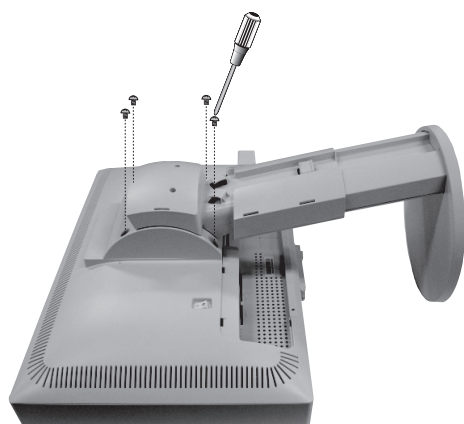

Figure M.3
3. Place monitor face down on a non-abrasive surface (**Figure M.3**).
4. Remove the 4 screws connecting the stand to the monitor (**Figure M.3**).